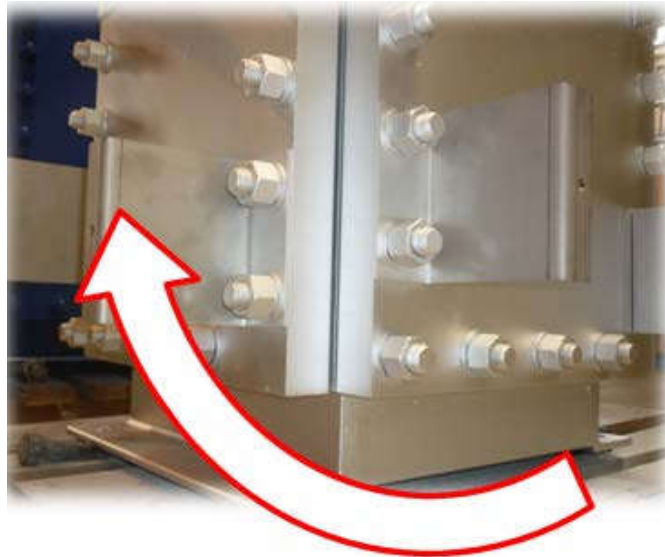

Figure 21
- Respect pre-tightening sense as on figure 21.